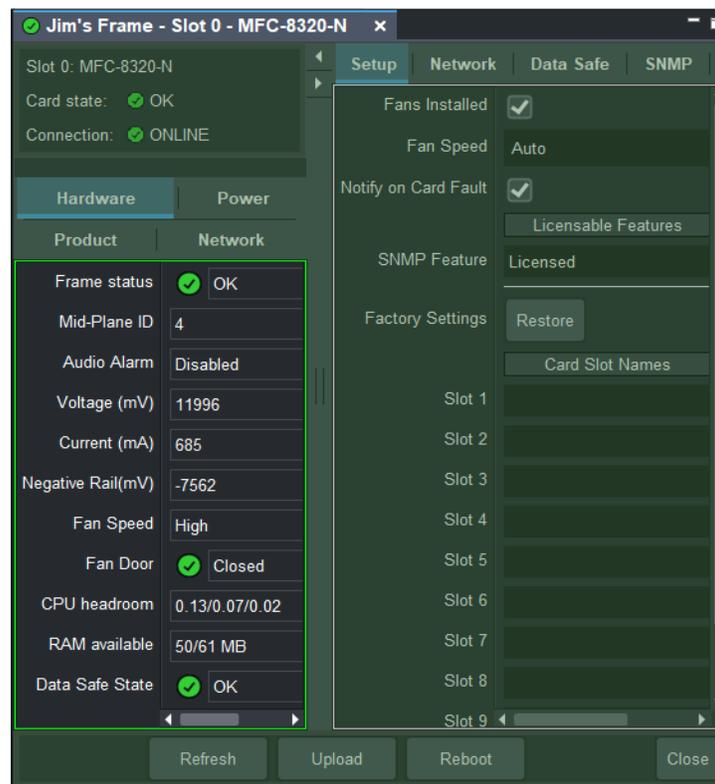

Figure 5.9 - A Device View, with a Group of Device Controls Selected (bright green outline)
- You can select a single control or a group of controls. As you hover the Device View, the selected control(s) are indicated by a white outline (**Figure 5.9**). When you click to select them, the outline turns bright green.